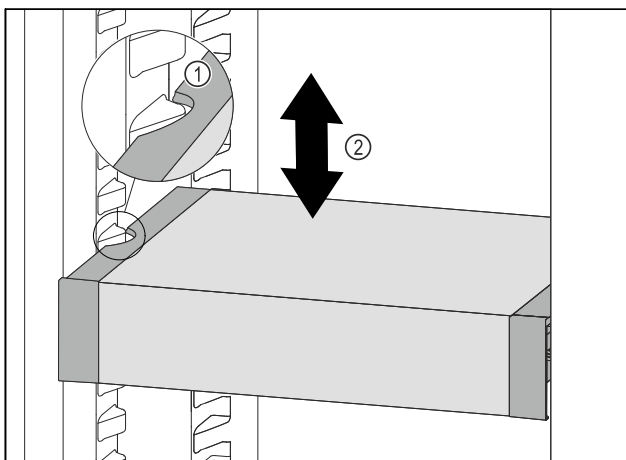

Fig. 50
- Pull VarioSafe forwards until the recesses in the side of the VarioSafe are at the level of the support rib in the refrigerator compartment. Fig. 50 (1)
- Move VarioSafe up or down in the refrigerator compartment until the desired height is reached. Fig. 50 (2)